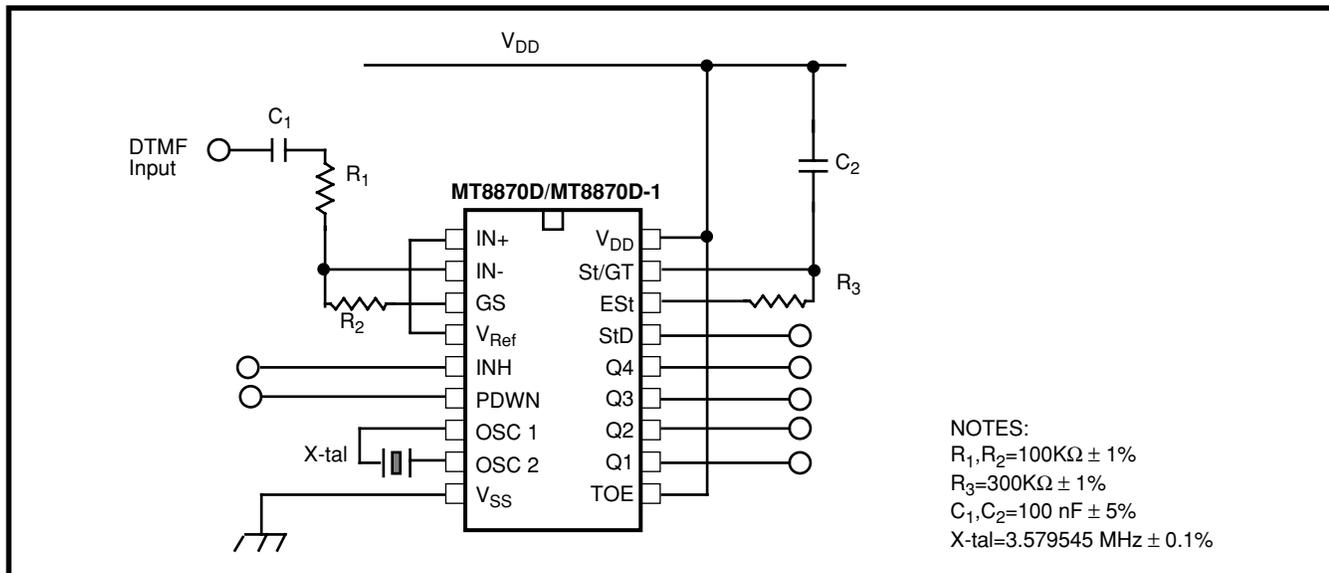

Figure 10 - Single-Ended Input Configuration
## MT8870D AC Electrical Characteristics - $V_{DD}=5.0V \pm 5\%$ , $V_{SS}=0V$ , $-40^{\circ}C \leq T_O \leq +85^{\circ}C$ , using Test Circuit shown in Figure 10.
**MT8870D-1 AC Electrical Characteristics** -  $V_{DD}=5.0V\pm 5\%$ ,  $V_{SS}=0V$ ,  $-40^{\circ}C \leq T_O \leq +85^{\circ}C$ , using Test Circuit shown in Figure 10.
12. Referenced to Fig. 10 input DTMF tone level at -25dBm (-28dBm at GS Pin) interference frequency range between 480-3400Hz.
## AC Electrical Characteristics - $V_{DD}=5.0V\pm 5\%$ , $V_{SS}=0V$ , $-40^{\circ}C \leq T_o \leq +85^{\circ}C$ , using Test Circuit shown in Figure 10.